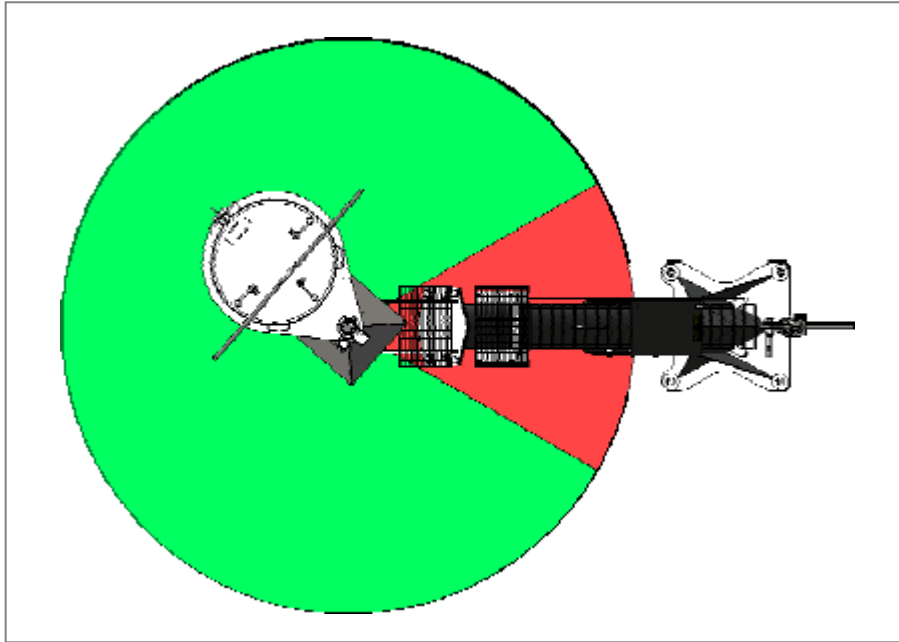

Figure 4. Range of permitted approach angle when placing the deployment box on the tower.
1. The pilot brings the insertion funnel directly over the docking spike on the top of the tower, following the range of permitted approach angle in Figure 4.